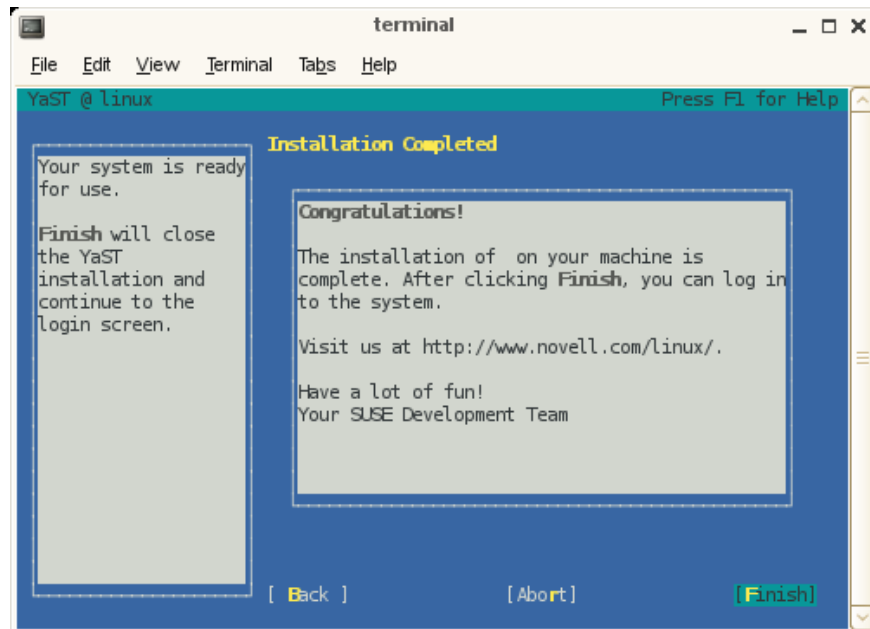

Figure 2-8 Installation Completed Screen
18. An **Installation Completed** screen appears, as show in Figure 2-8 on page 41. Click on the **Finish** button.